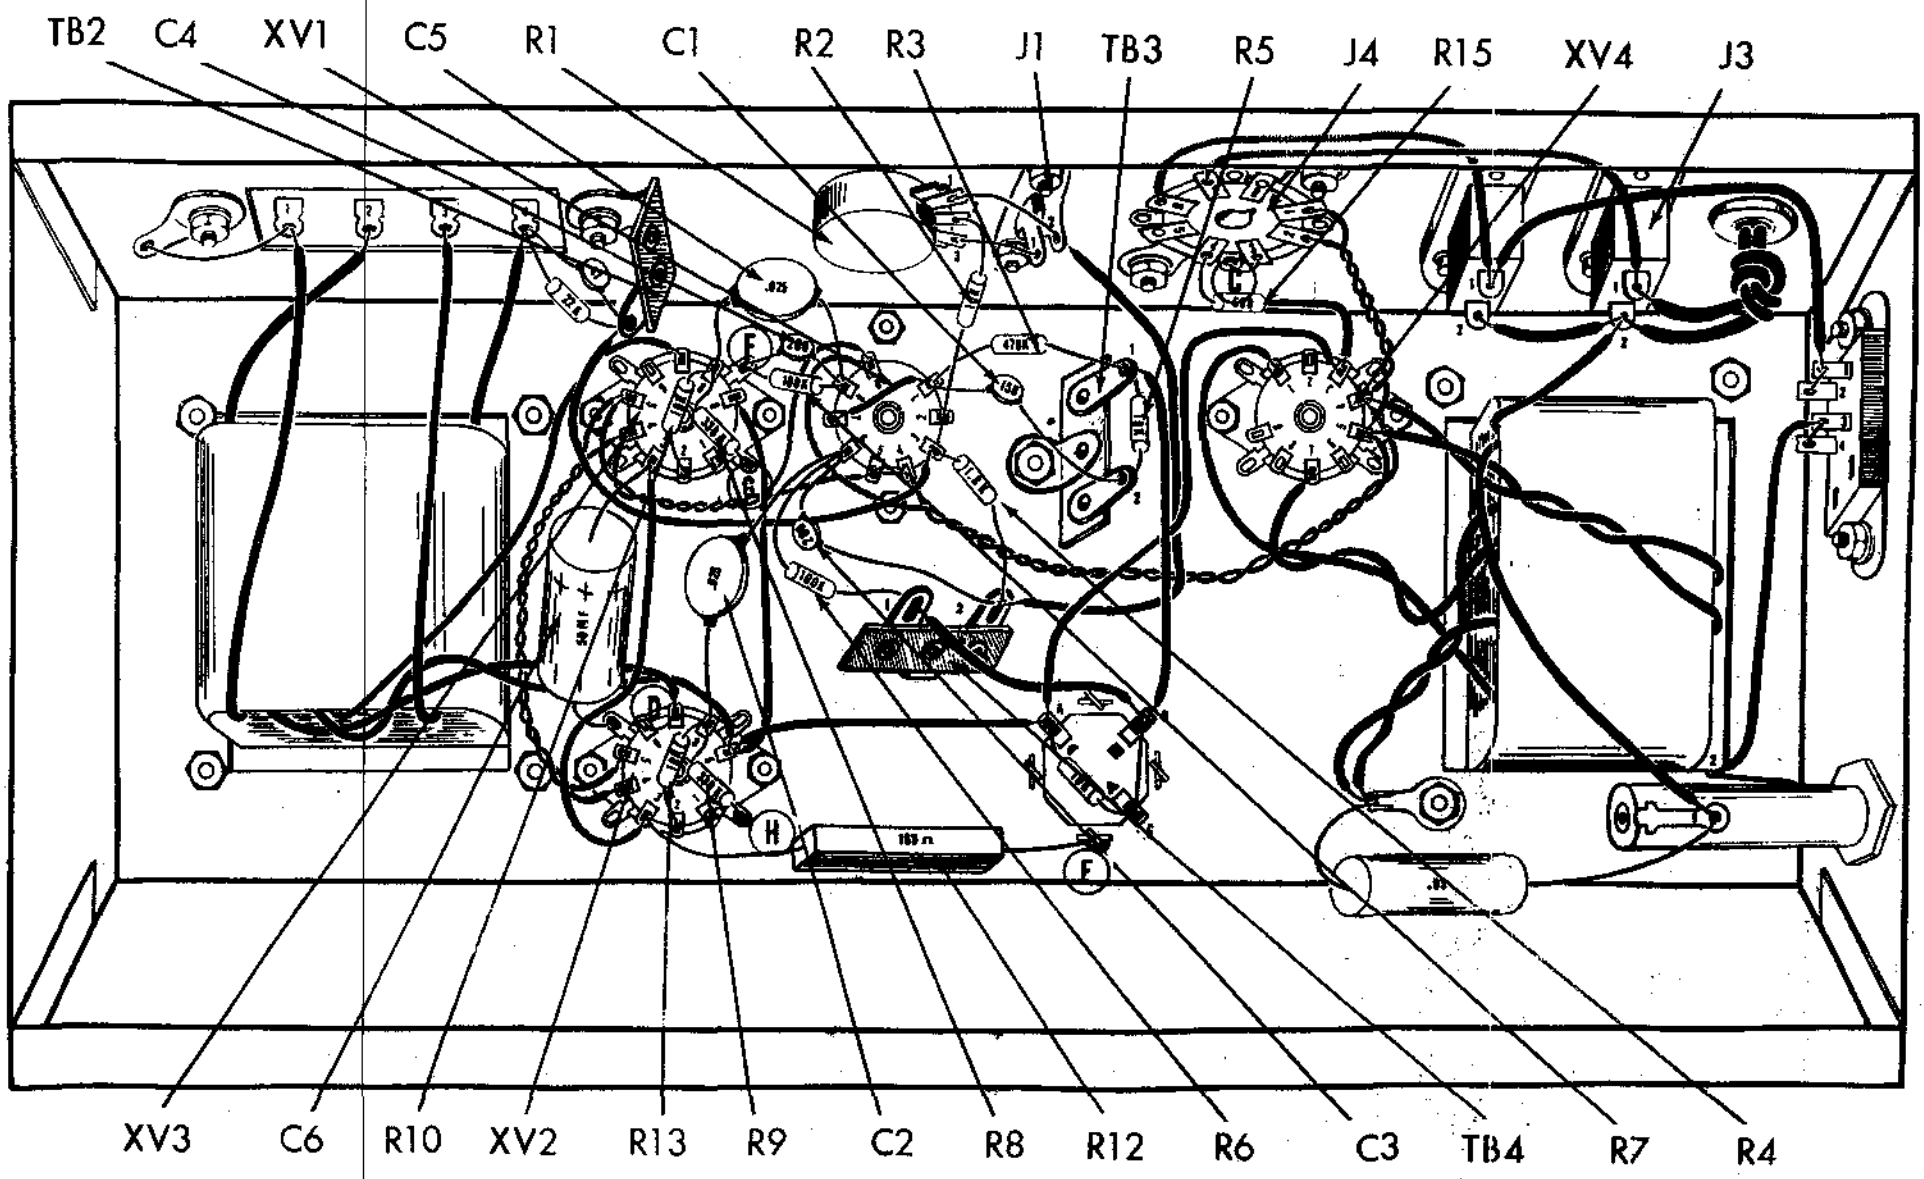

Fig. 5
1. (✓) Fig. 5. Connect a 3/4" piece of bare wire from J4-3 (S1) to ground lug "C" (S1) on socket J4.
2. (✓) Fig. 5. Cut both leads on a 680Ω (blue, grey, brown, silver) resistor, R15, to 3/4". Cover each lead with a 1/2" piece of spaghetti. Connect from XV4-3 (S2) to J4-4 (S1).
3. (✓) Fig. 5. Connect a 4 1/2" piece of black wire from TB2 (S3) to XV1-3 (C).
4. (✓) Fig. 5. Connect a 3" piece of black wire from XV3-3 (C) to XV2-3 (C).
5. (✓) Fig. 5. Cut both leads on a 50mfd electrolytic capacitor, C6, to 3/4". Cover both leads with a 1/2" piece of spaghetti. Connect the negative (-) lead to ground lug "D" (S1) at XV2 and the positive lead (+) to XV3-3 (S2).
6. (✓) Fig. 5. On the 165Ω wire wound resistor, R12, cut one lead to 3/4" and the second lead to 1 1/2". Cover the shorter lead with a 1/2" piece spaghetti and connect to XV2-3 (S2). Connect the longer lead to ground lug "E" (S1) on can capacitor, C8. Solder the ground lug "E" to the chassis at this point.
7. (✓) Fig. 5. Cut both leads on a 100KΩ (brown, black, yellow, gold) 5% resistor, R7, to 3/4". Cover each lead with a 1/2" piece spaghetti. Connect from XV1-8 (C) to ground lug "F" (C) at XV3.
8. (✓) Fig. 5. Cut both leads on a 200mfd disc capacitor, C4, to 3/4". Cover each lead with a 1/2" piece of spaghetti. Connect from XV1-8 (C) to ground lug "F" (S2) at XV3.
9. (✓) Fig. 5. Cut both leads on a .025mfd (25K or 25,000 mmf) disc capacitor, C5, to 3/4". Cover each lead with a 1/2" piece of spaghetti. Connect from XV1-8 (S3) to XV3-8 (C).
10. (✓) Fig. 5. Connect a 1" piece of bare wire covered with a 3/4" piece of spaghetti from XV1-1 (C) to XV1-7 (S1).
11. (✓) Fig. 5. Cut both leads on a 470KΩ (yellow, violet, yellow, silver) resistor, R3, to 1/2". Connect from XV1-1 (C) to TB3-1 (C).
12. (✓) Fig. 5. Cut both leads on a 150mfd disc capacitor, C1, to 3/4". Cover one lead with a 1/2" piece of spaghetti and connect to XV1-1 (S3). Connect the other lead to TB3-2 (C).
13. (✓) Fig. 5. Cut both leads on a 10KΩ (brown, black, orange, silver) resistor, R5, to 1/2". Connect from TB3-1 (S3) to TB3-2 (S2).
14. (✓) Fig. 5. Cut both leads on a 1.8KΩ (brown, grey, red, gold) resistor, R4, to 3/4". Connect from XV1-3 (S2) to TB4-2 (C).
15. (✓) Fig. 5. Cut both leads on a 200mfd disc capacitor, C3, to 1". Cover one lead with a 3/4" piece of spaghetti and connect to XV1-6 (C). Connect the other lead to TB4-2 (C).
16. (✓) Fig. 5. Cut both leads on a 100KΩ (brown, black, yellow, gold) 5% resistor, R6, to 1/2". Connect from XV1-6 (C) to TB4-1 (S2).
17. (✓) Fig. 5. Connect a 1" piece of bare wire from potentiometer R1-3 (S1) to J1-1 (S1).
18. (✓) Fig. 5. Cut one lead on a 10KΩ (brown, black, orange, silver) resistor, R2, to 1/2" and connect XV1-2 (S1). Cut the other lead to 3/4" and connect to potentiometer R1-2 (S1).
19. (✓) Fig. 5. Cut both leads on a .025mfd (25K or 25,000 mmf) disc capacitor, C2, to 1 1/4". Cover each lead with a 1" piece of spaghetti. Connect from XV1-6 (S3) to XV2-8 (C).
20. (✓) Fig. 5. Cut all leads on two 10KΩ (brown, black, orange, silver) resistors, R10 and R13, to 1/2". Connect R10 from XV3-8 (C) to XV3-2 (S1). Connect R13 from XV2-8 (C) to XV2-2 (S1).
21. (✓) Fig. 5. Cut all leads on two 330KΩ (orange, orange, yellow, silver) resistors, R8 and R9, to 1/2". Connect R8 from XV3-8 (S3) to ground lug "G" (S1) at XV3. Connect R9 from XV2-8 (S3) to ground lug "H" (S1) at XV2.
22. (✓) Fig. 5. Push the tinned solder leads from the line cord through the grommet on the rear apron of the chassis, next to J3. Tie a knot in the line cord 1 1/2" from the tinned solder leads so that the cord cannot pull through the grommet. Connect one solder lead to J3-2 (S3) and the second solder lead to J3-1 (S2).
23. (✓) Fig. 5. Connect a 4 1/2" piece of black wire from J1-2 (C) to TB4-2 (S3).
24. (✓) Fig. 5. Connect a 1 1/2" piece of black wire from J1-2 (S2) to R1-1 (S1).